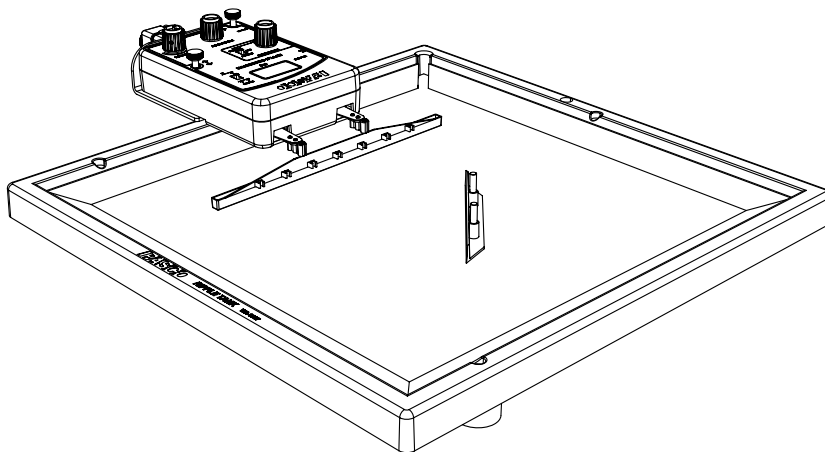

Figure 1.2: Position of Straight Barrier
1. Arrange the long barrier in the middle of the tank so the barrier is at an angle to the plane wave dipper (see Figure 1.2).